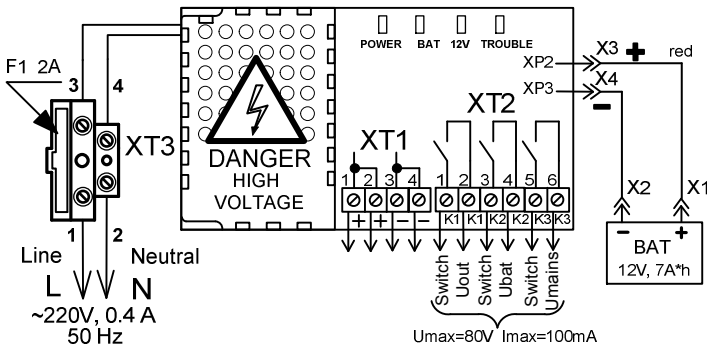

Figure 3. RIP-12 mod.14 (RIP-12-2/7P2-R) Connection Diagram
While connecting mains power wires 220 V to the input terminal block, please observe correct polarity of connecting the Line and Neutral circuits. Connect the circuits to the RIP as shown in Figure 3.
2.3.1 Make sure that the mounting is performed correctly and as shown in the RIP-12 mod.14 (RIP-12-2/7P2-R) (see Figure 3).
2.4.7 For remote indication of availability of mains power voltage, output voltage, and battery voltage connect the outputs of the solid state relays K1, K2, and K3 to the alarm detection circuits of control equipment as shown in Figure 3. Conditions of the solid state circuits can be found in Table 1.